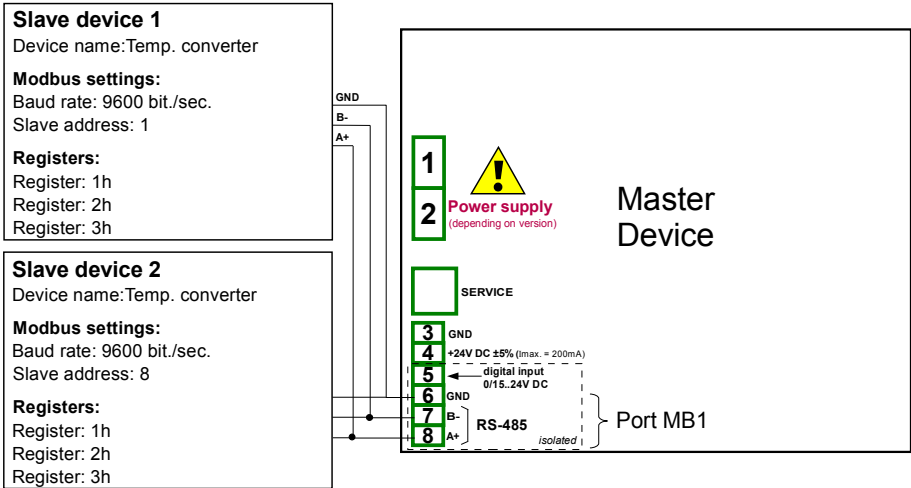

Fig. 7.153. Connection diagram for the Modbus port MB1
First configure the device, then connect the SLAVE device to the MultiCon (in accordance with **Fig. 7.153**).
- using the arrows in the upper right corner choose **Port number: 1 (MB1)** in accordance with **Fig. 7.153**,